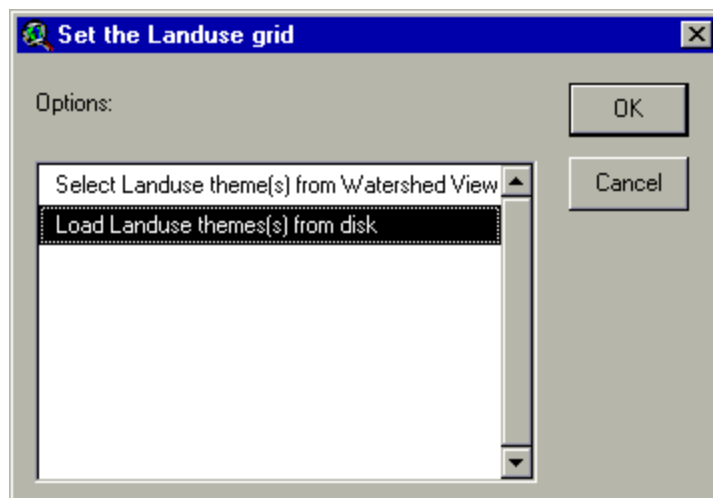

Figure 15.29
4. A prompt box will appear (Figure 15.29).